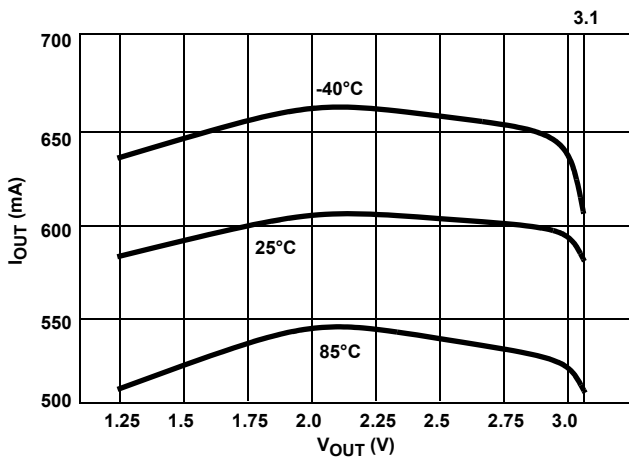

FIGURE 4. CURRENT REGULATION vs VOUT (VIN = 3.3V)
The ISL6118 has integrated current sensing on the power MOSFETs that allows for rapid control of OC events. Once an OC condition is detected the ISL6118 goes into its current regulation (CR) control mode. The ISL6118 CR level is set to a nominal 0.6A and is regulated to within  $\pm 25\%$  over full temperature, bias voltage range and OC magnitude. The speed of this control is proportional to the level of OC. Thus a hard OC is more quickly controlled than a marginal condition. See Figures 4 through 7 for current regulation performance curves and waveforms.